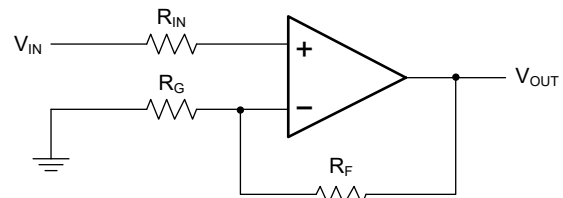

Figure 3. Operational Amplifier Schematic for Non-Inverting Configuration
- Place the external components as close to the device as possible. Keeping R_F and R_G close to the inverting input minimizes parasitic capacitance, as shown in Figure 3.